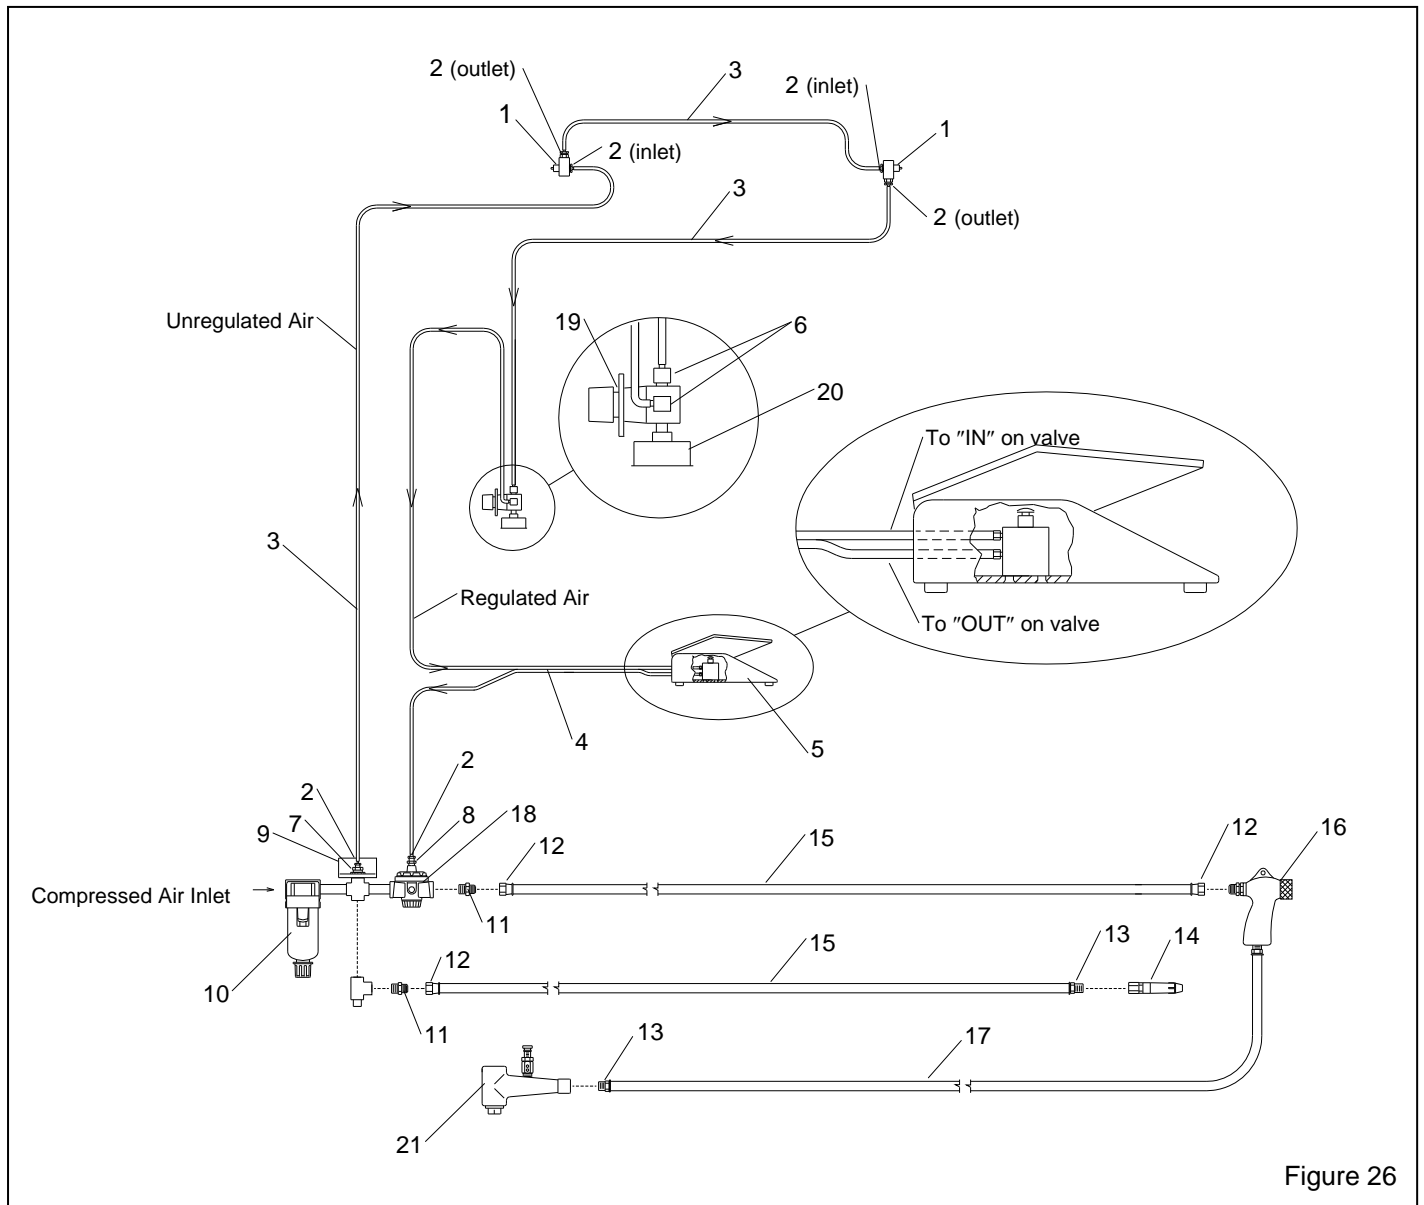

Figure 26
9.8 Cabinet Plumbing Assembly, Figure 26